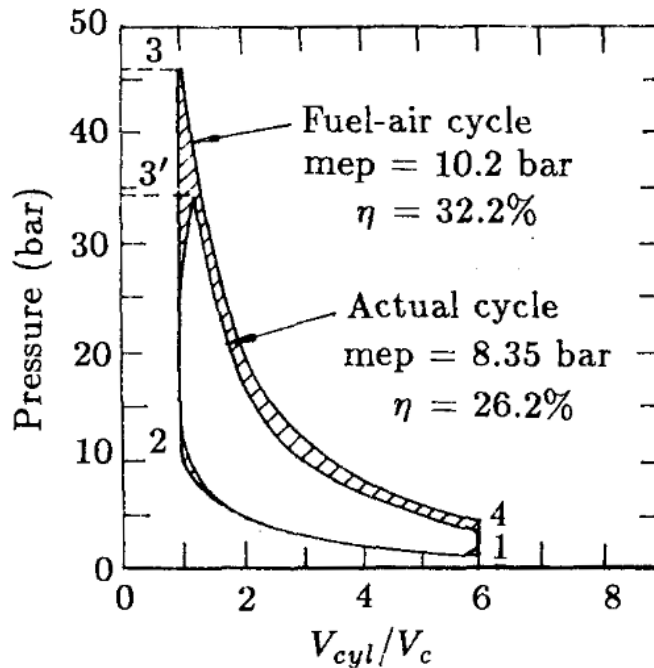

Fig. 5.4 Optimum Advance 15°- 30°
- Therefore, a moderate or optimum spark advance (Fig.5.4) is the best compromise resulting in minimum losses on both the compression and expansion strokes.